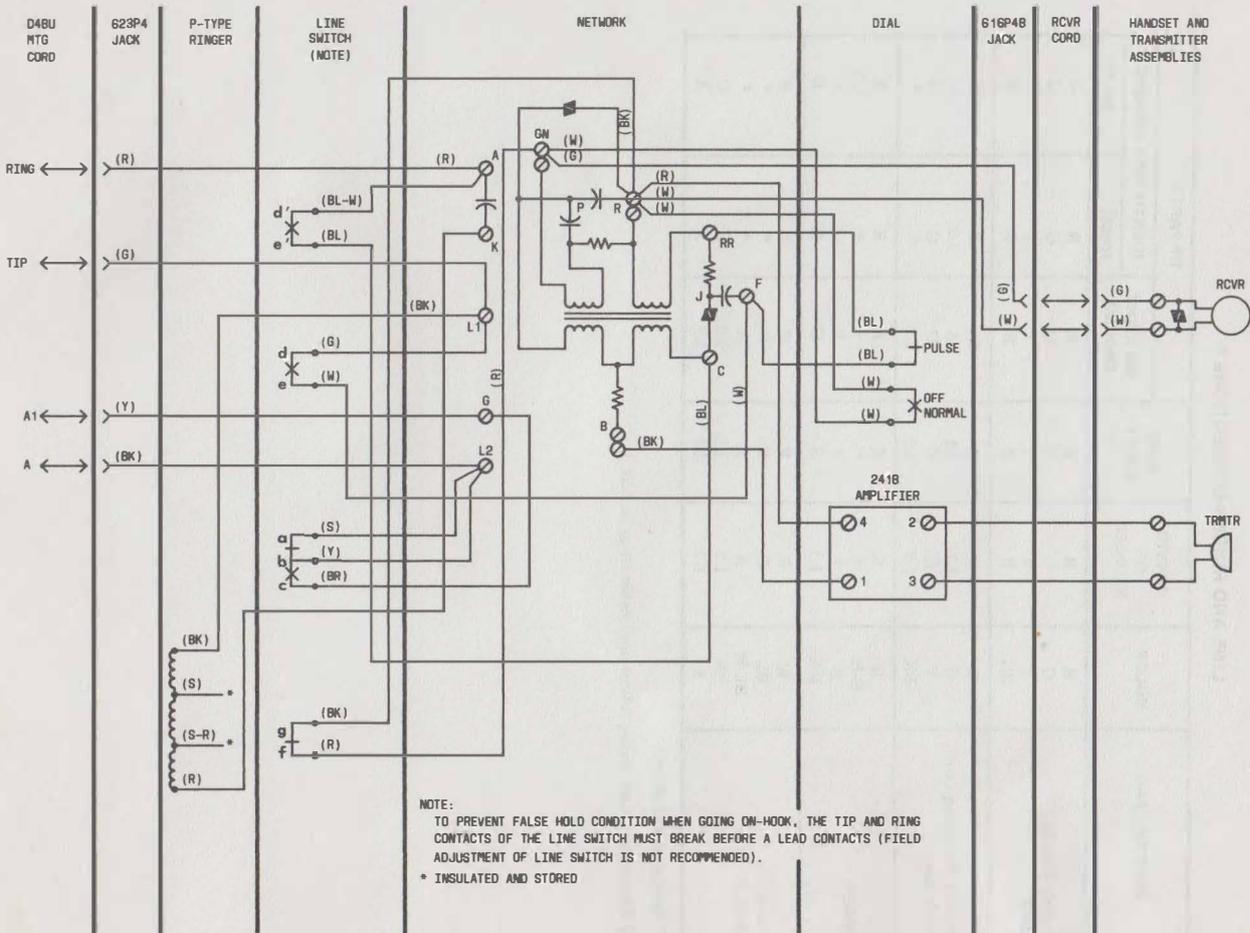

Fig. 5—952A1-03 Telephone Set, Connections For 1A1 or 1A2 KTS
3.07 Connections for 1A1 and 1A2 KTS require moving the brown (BR) line switch lead from L2 on the network to the G terminal as shown in Fig. 5.